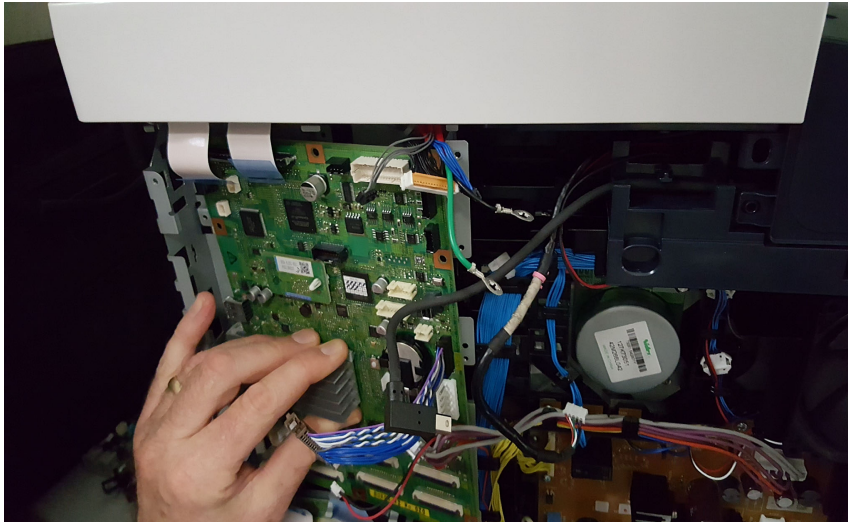

Figure 5 Slide the ESS PWB
c. Carefully ease the ESS PWB out of the ESS frame, Figure 5.